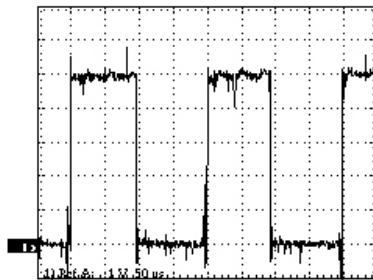

Figure 19 - Pulse feedback signals
- Start-up the inverter in without load mode, operating it in scalar mode; Check the pulse feedback signal with speed reference at 90 RPM (XC4:1,2,3 of the CC9 board relating to the X1-GND). The pulse curves shall be similar to those shown in Figure 19;